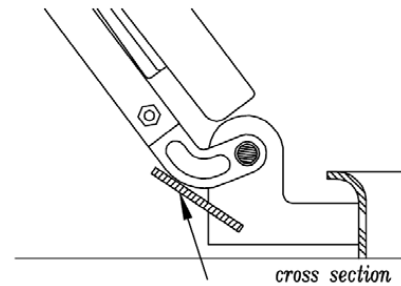

Figure 1
2. For aluminum arms only! If present, remove the welded cross hinge member or hinge stop. [Figure 1]